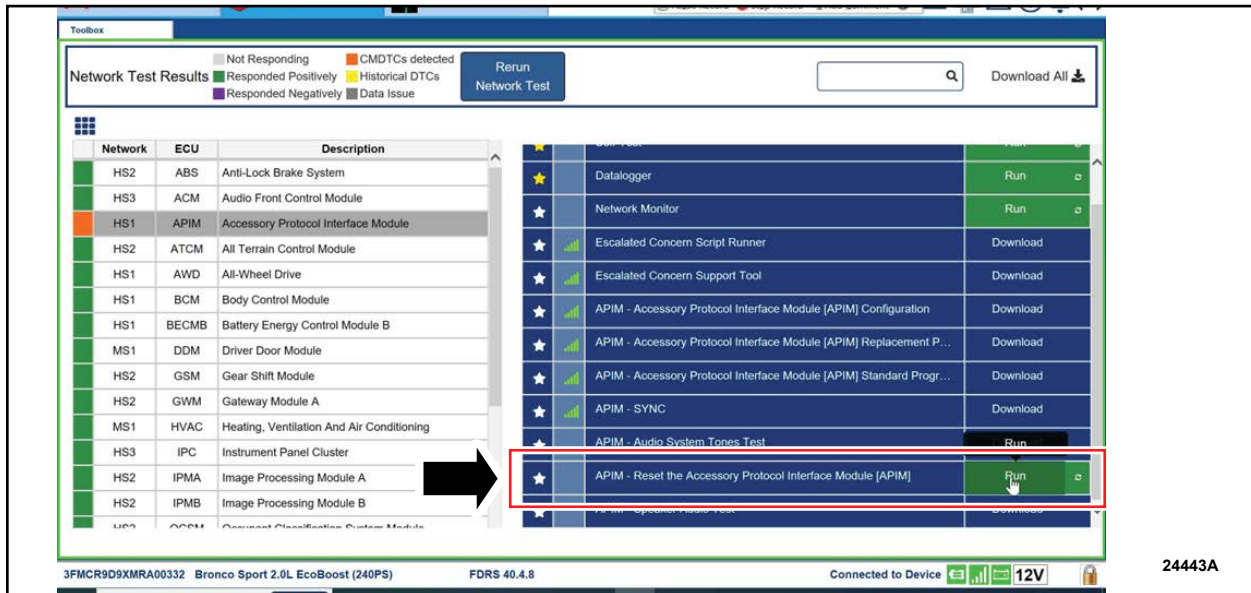

FIGURE 1
**NOTE:** Available modules are shown on the left hand (LH) side of the screen, and available procedures are listed on the right hand (RH) side of the screen. Modules that are communicating are highlighted in green.
7. From the list on the RH side of the screen, select **APIM - Reset the Accessory Protocol Interface Interface Module [APIM]**. See Figure 1.